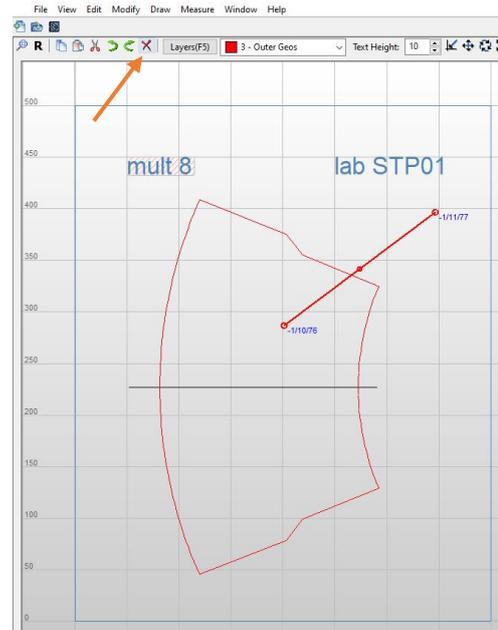

Figure 151
- Delete:** Back in the sketcher area select the line causing the error and click  in the Main Toolbar (Figure 151) or press **-DEL** on our keyboard.